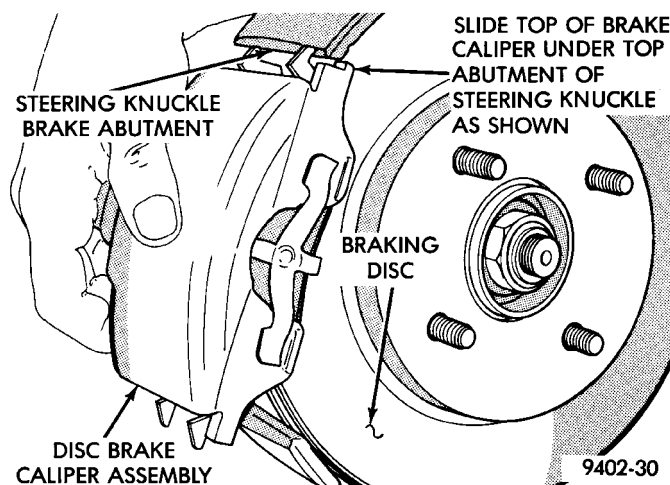

Fig. 58 Disc Brake Caliper Installation
(4) Install disc brake caliper on steering knuckle. Caliper is installed by first sliding top of caliper under top abutment on steering knuckle. Then install bottom of caliper against bottom abutment on steering knuckle (Fig. 58).